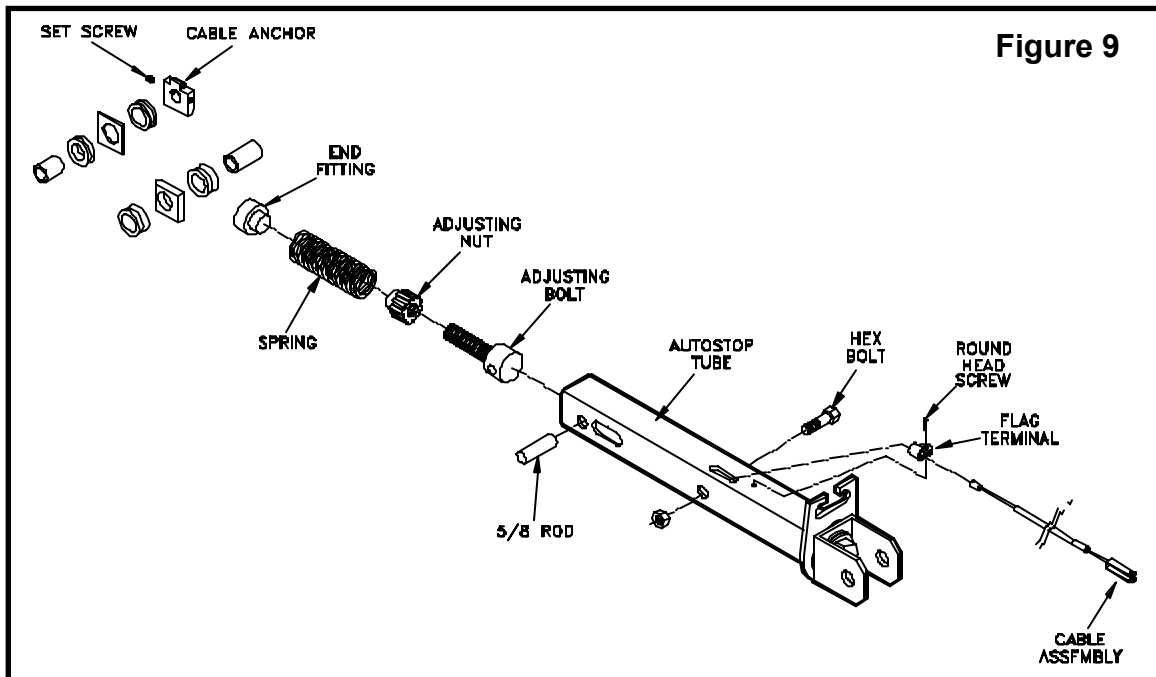

Figure 9
1. Remove the AutoStop™ from the receiver hitch. Remove the hex bolt. (Figure 9)